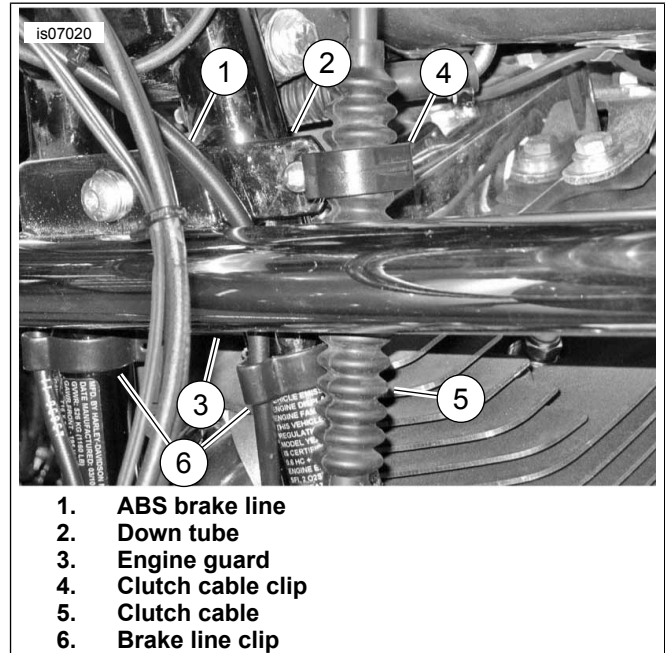

Figure 1. Brake Line and Clutch Cable Routing
1. See Figure 1. Check the position of the clutch cable clip (4). The clip should extend outboard. If it does not, rotate the clip 180 degrees as follows:
- a. Open clutch cable clip (4) on left downtube (2) and remove the clutch cable (5) from the clip.
See Figure 1. When installing engine guard on models with ABS brakes, route the brake line (1) outboard of the frame tube and behind the engine guard (3) as shown. Rotate the brake line retaining clips (6) as shown to allow proper brake line routing.